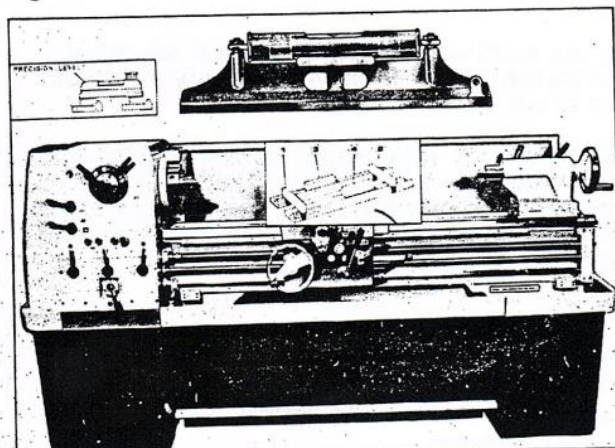

Fig. 3
**Free-standing:** Position lathe on foundation and adjust each of the eight mounting feet to take equal share of the load. Then using an engineers' precision level on the bedways (as in Fig. 3) adjust the feet to level up machine. Periodically check bed level to insure continued lathe accuracy.
**Fixed installation:** Position lathe over eight bolts ( $\frac{3}{8}$  in. diam.) set into the foundation to correspond with holes in the mounting feet; dimensions are shown on Foundation Plan. Accurately level the machine, as in Fig. 3, then tighten hold-down bolts. Re-check bed level.